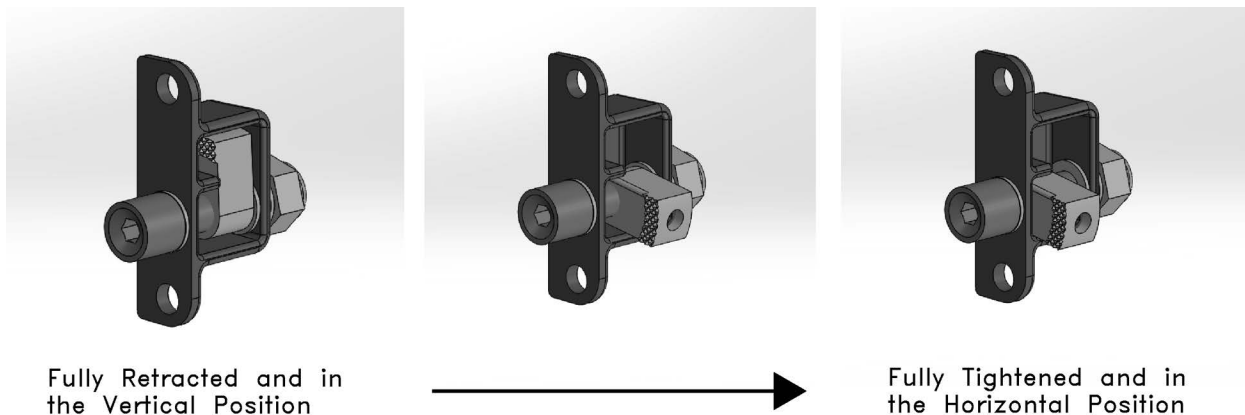

Figure 11-2. Pawl Latch
1. Per Figure 11-2, make sure the pawl latch fasteners are fully retracted and in the vertical position.